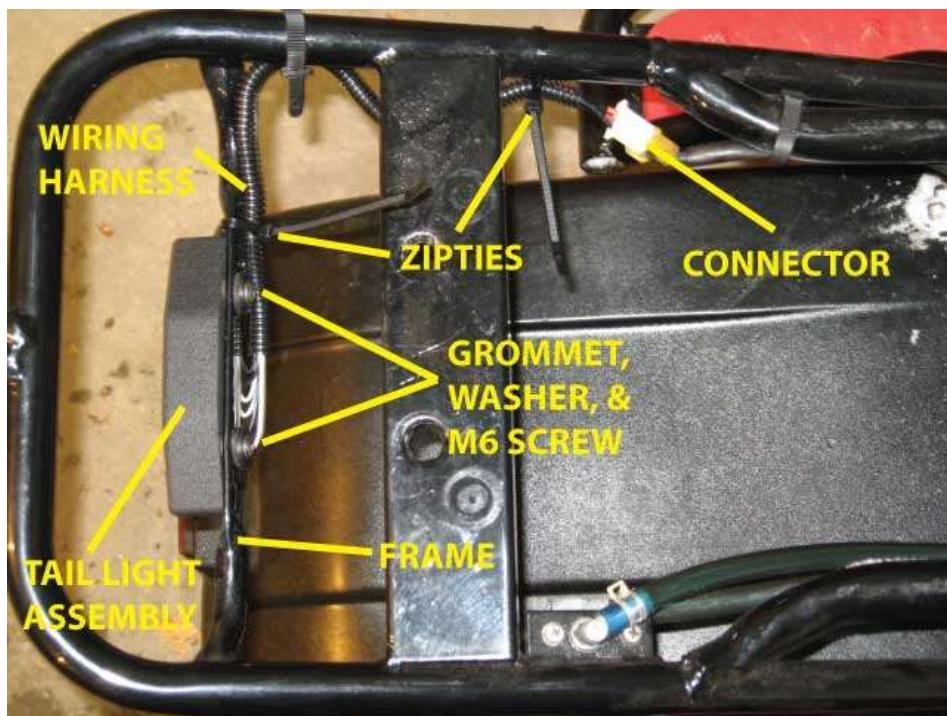
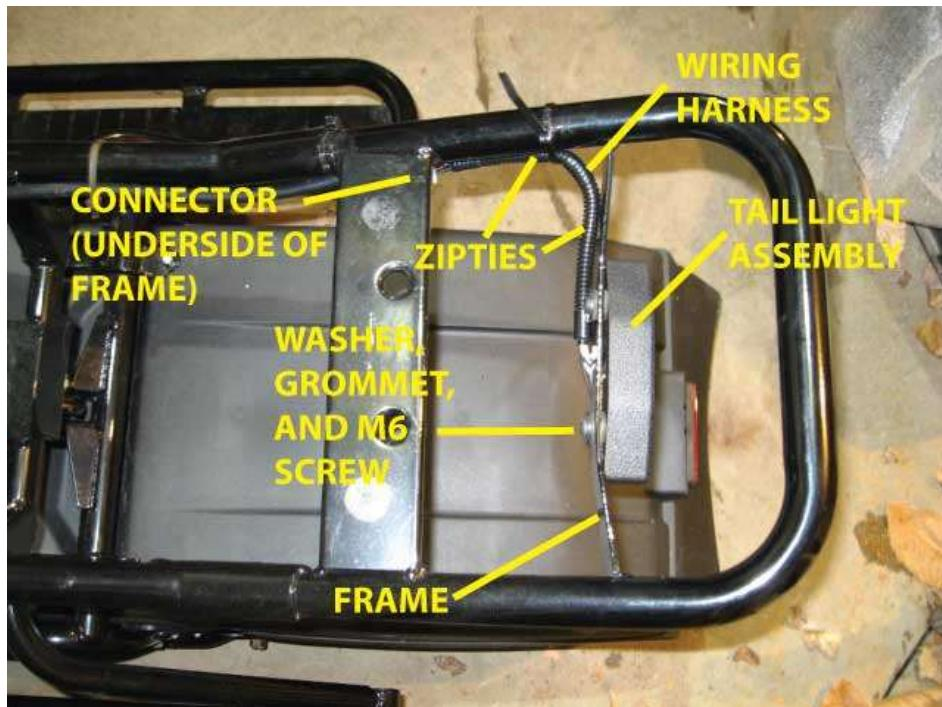

FIG. 1
FIG. 2
- Install a rubber grommet into one of the bolt holes in the frame. See Fig. 1 Note: It may be necessary to use a screwdriver or something similar to help push the grommet into the bolt hole. Ensure that the groove in the grommet is seated correctly in the hole.
- Place the tail light up against the rubber grommets and install a washer and M6 x 20mm screw into each of the threaded holes in the tail light. See Fig. 1 NOTE: Do not overtighten these screws. Doing so will strip the threads.
- Route the wiring harness of the tail light around the frame and over to the connector on the wiring harness. See Fig. 1 or See Fig. 2 for SnoSport SV125
- Plug the connector from the tail light into the connector from the wiring harness. See Fig. 1 or See Fig. 2 for SnoSport SV125
- Use the supplied zip ties to secure the wiring harness to the frame as shown. See Fig. 1 or Fig. 2 for SnoSport SV125